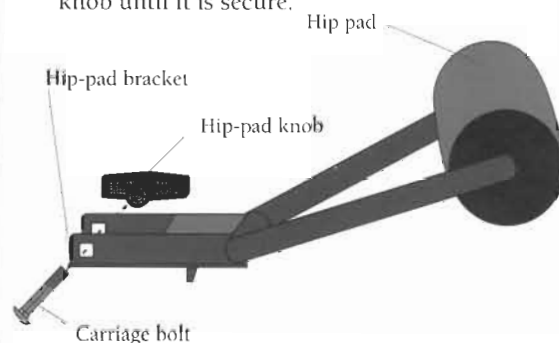

Figure 8
4. Replace the carriage bolt and the hip-pad knob (Figure 8). Be sure to tighten the knob until it is secure.